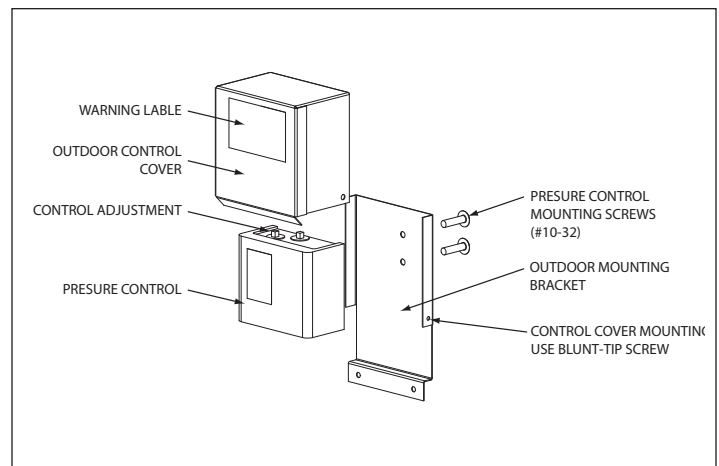

Figure 1.
4. Install Low ambient control to the mounting bracket using the two (2) 10-32 mounting screws & washers that are located in the box for the pressure control. (See Figure 1.) Install the 7/8" Star bushing in the bottom of the pressure control.
24. Wipe off any excess dirt, moisture and/or oil from the cover plate with a clean rag and install the supplied warning sticker on front surface so that it is visible (see Figure 1.)